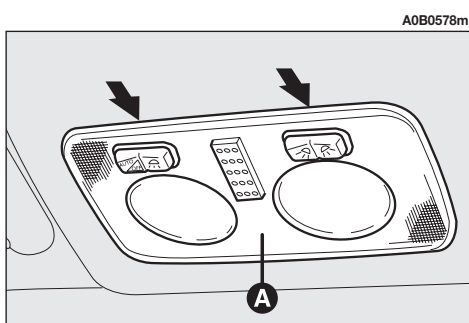

fig. 52
- Remove the roof light (A-fig. 52) levering in the points shown by the arrows.